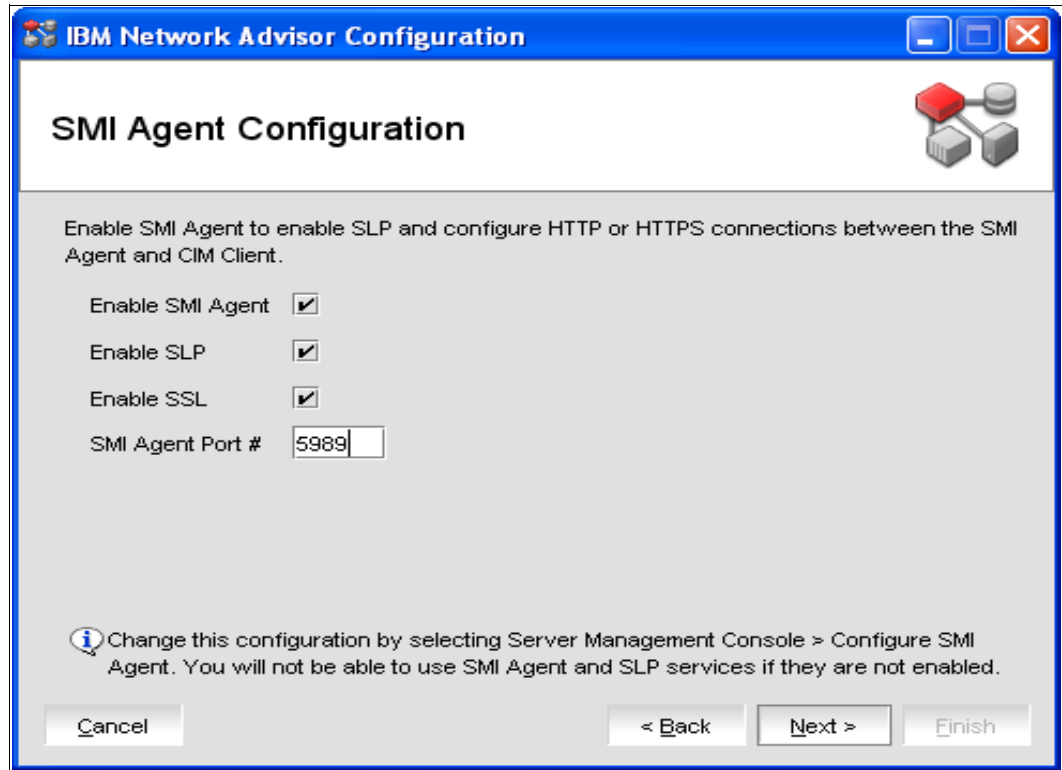

Figure 8-12 SMI Agent Configuration
12. Enable SMI Agent, as shown in Figure 8-12 on page 256. (Enable SLP and Enable SSL are only available after you select the **Enable SMI Agent** option), and click **Next**.